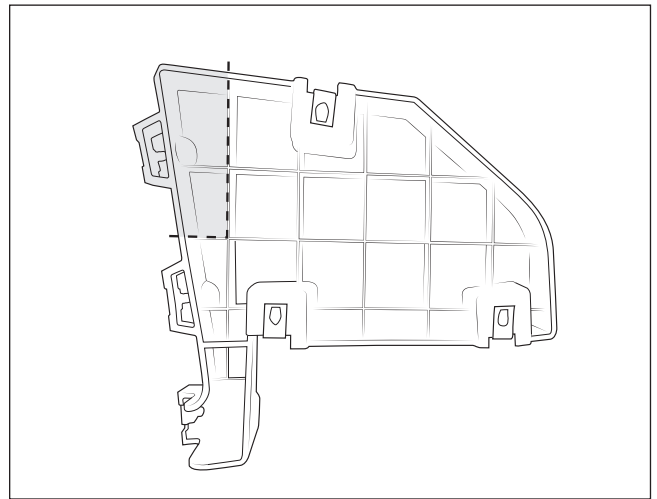

Figure 5
8. Trim the lower fascia brackets removing the portion shown (fig. 5) and re-install.